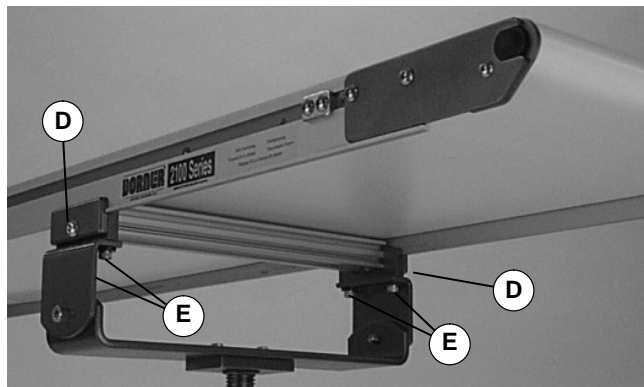

Figure 5
3. Attach clamp plates on each side of conveyor (Figure 5). Align assembly perpendicular to conveyor frame. Secure the 5/16 button head screws (D) with 150 in-lb (17 Nm) torque or the M8 button head screws (D) with 80 in-lb (9 Nm) torque.
4. Mount to support stand. Secure the 1/4 or M6 socket head screws (E) with 80 in-lb (9 Nm) torque. Make sure belt is free to move.